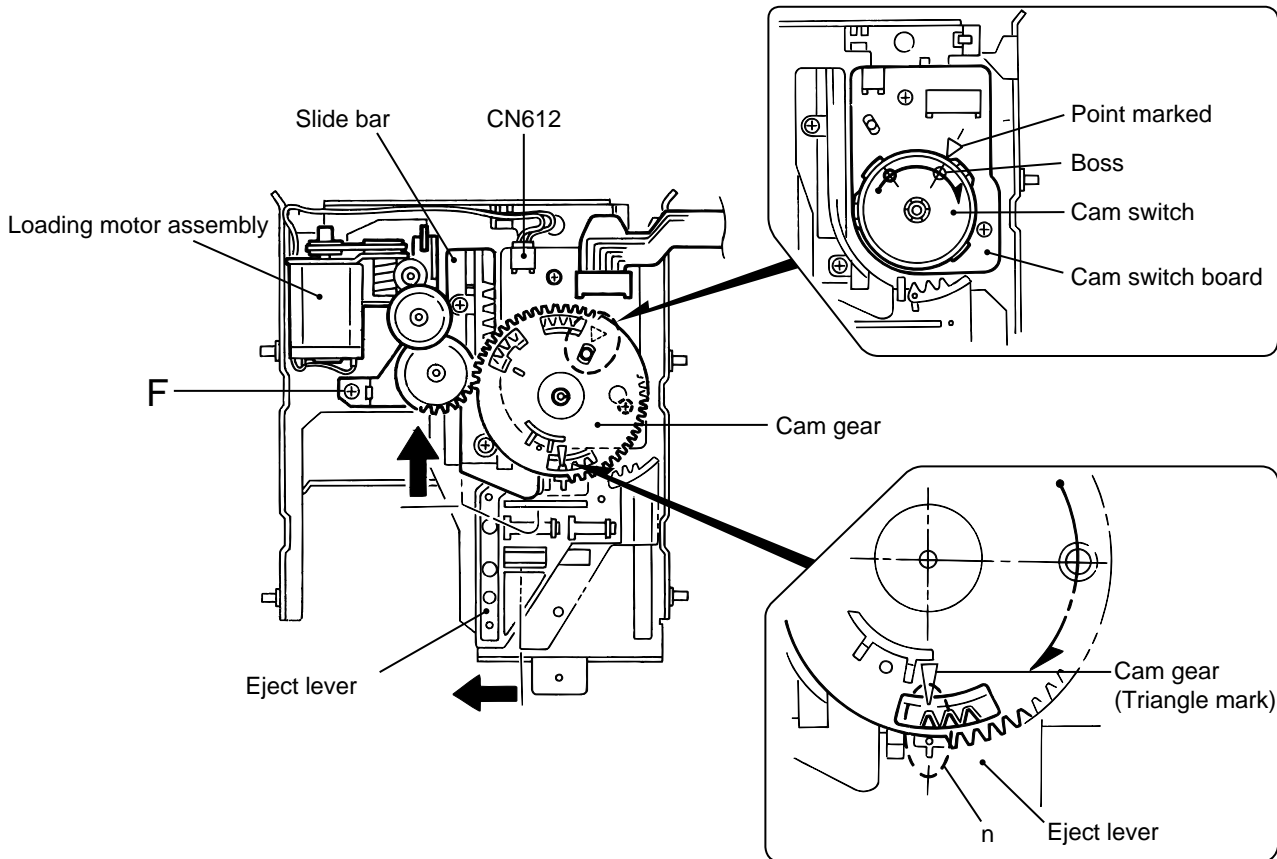

Fig.22
5. Reattach the cam switch board using the two screws H. (Fig.22)
6. Turn the cam switch to bring the boss to the point marked  $\Delta$  on the cam switch board. Reattach the cam gear using a slit washer while fitting the cam gear slot to the cam switch boss. (Fig.22)
ATTENTION: When reattaching the cam gear, the cam switch boss should be fitted to the cam gear slot, and the triangle mark of the cam gear should be aligned to the hole of the eject bar as shown in Fig.22.
7. Reattach the loading motor assembly, using the screw F. Connect the harness extending from the loading motor to connector CN612 on the switch board and fix it with the wire holder. (Fig.22)